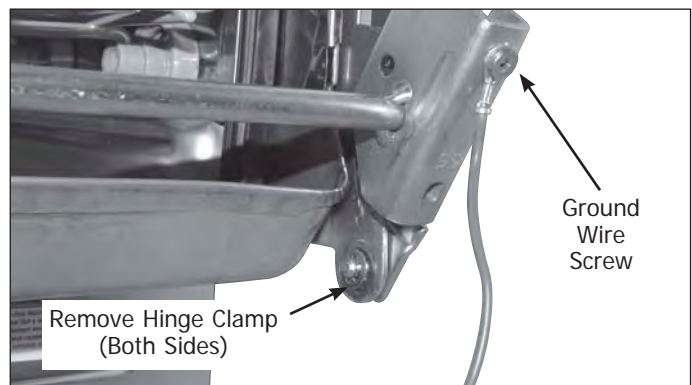

Figure 4-10.
4. Cut retaining straps securing wire harness to inner door panel. Pull wire harness through inner door panel and hinge assembly. Extract the screw securing the ground wire to the hinge assembly. (See Figure 4-10)
2. Remove the hinge pin clamp from each side of the hinge assembly. (See Figure 4-10)